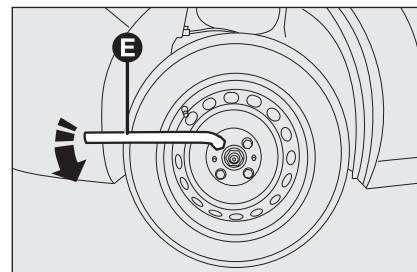

fig. 5
- loosen by about one turn the fastening bolts of the wheel to be replaced with the wrench provided **E**-fig. 5;